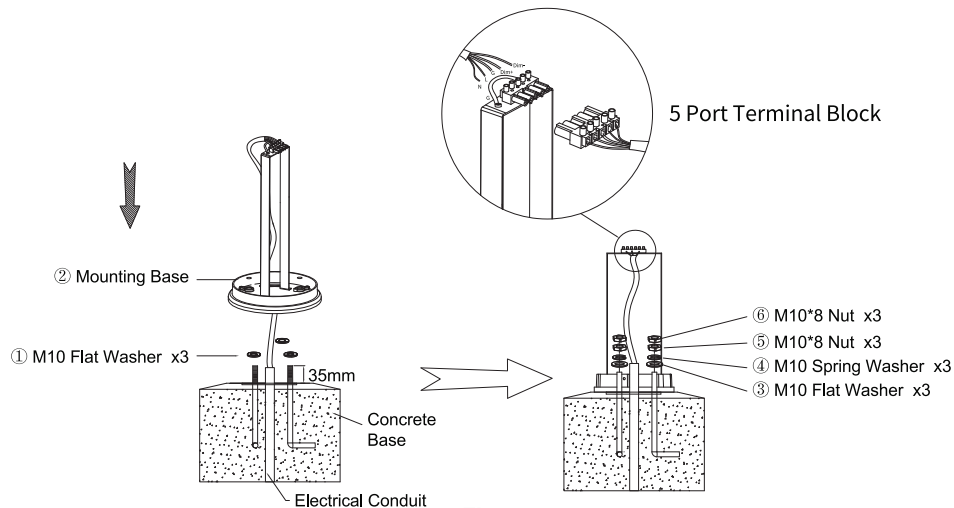

Fig7
- As Fig7 shown get male and female plug connected. Mounting of supply ground wire un the same terminal as existing ground wire (double wire in grounding terminal). Then please double check to make sure the wires are in good connection after the base installation.